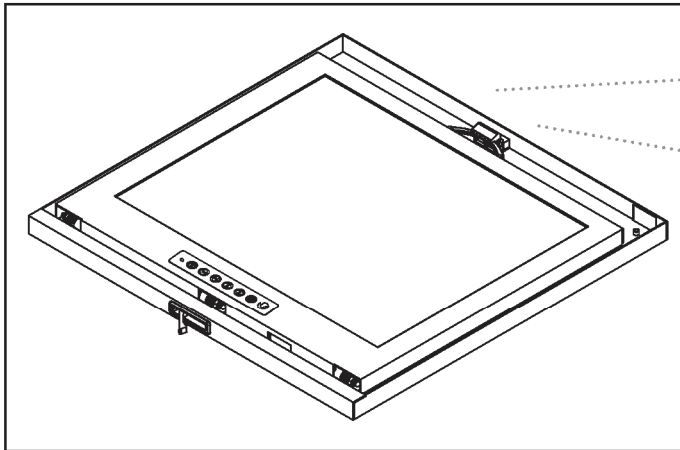

Figure 8.
■ Release the locking bracket in Figure 8.